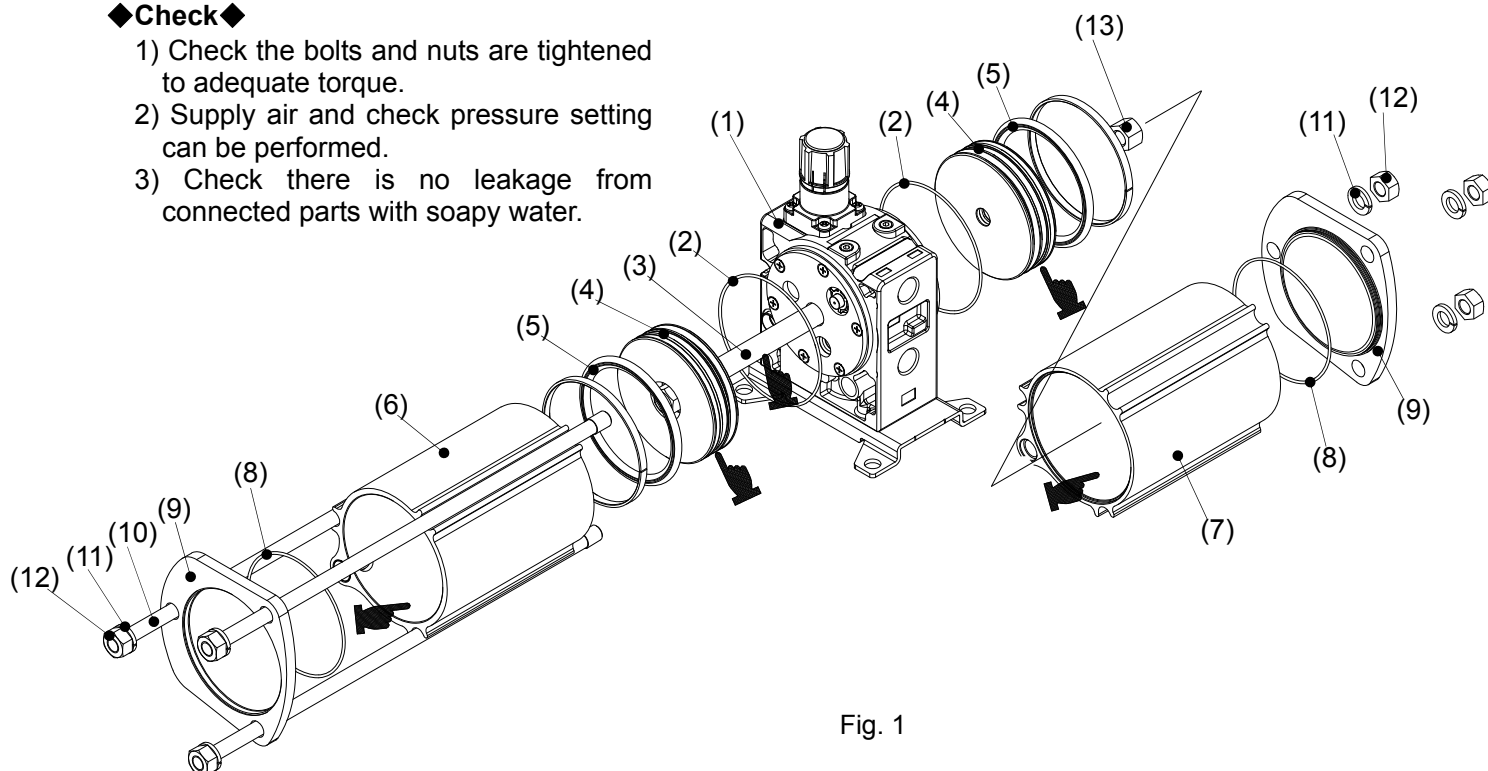

Fig. 1
- 1) Apply grease to the part marked with  in Fig. 1.
- 2) Pass the piston rod (3) through the body (1) and assemble the piston (4).
- 3) Apply one drop of Loctite to the thread of the piston nut (13) and tighten it with the socket wrench. (Torque 21Nm) **The piston is not fixed completely (idles) if it is assembled correctly. Do not tighten it over necessary torque.**
- 4) Mount the O-rings (2) to the right and left sides of the body and assembly the cylinder tubes (6) and (7). **It should be noted the cylinder tube assembled is different for the right and left sides.**
- 5) Mount the O-rings (8) to the side covers (9) and assemble the side covers to the right and left of the cylinder tubes (6) and (7).
- 6) Pass through three tie rods (10) and tighten them with the hexagon nuts (12) and spring washers (11). (Torque 42Nm)